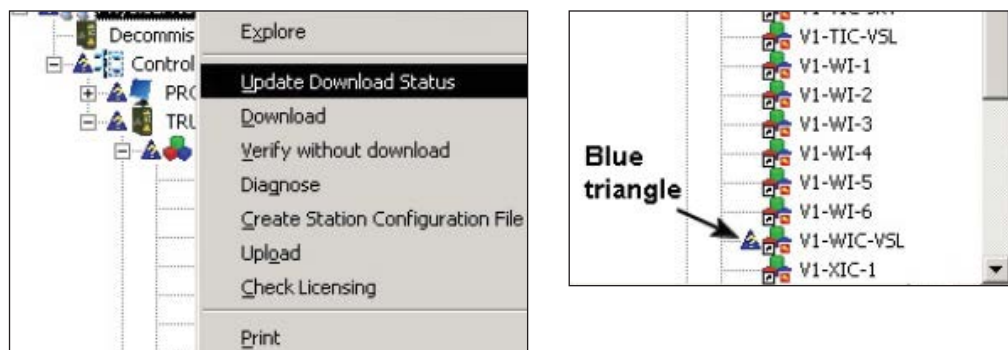

Figure F.5. “Update Download Status” and blue triangle detail.
- Click **OK** in the upper right corner of the box to save the selections. A blue triangle appears next to **Vs-WIC-VSL**, indicating a download is required (Figure F.5).